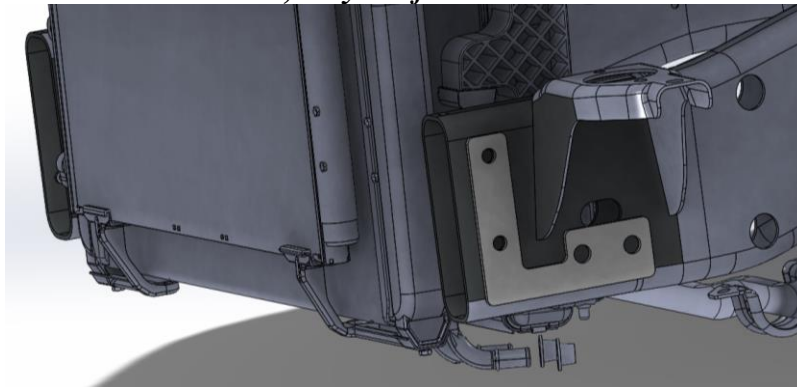

Figure 7
5. Use the supplied drill template on the frame rail to locate the additional holes to be drilled out if all four holes are not present. (Figure 7)